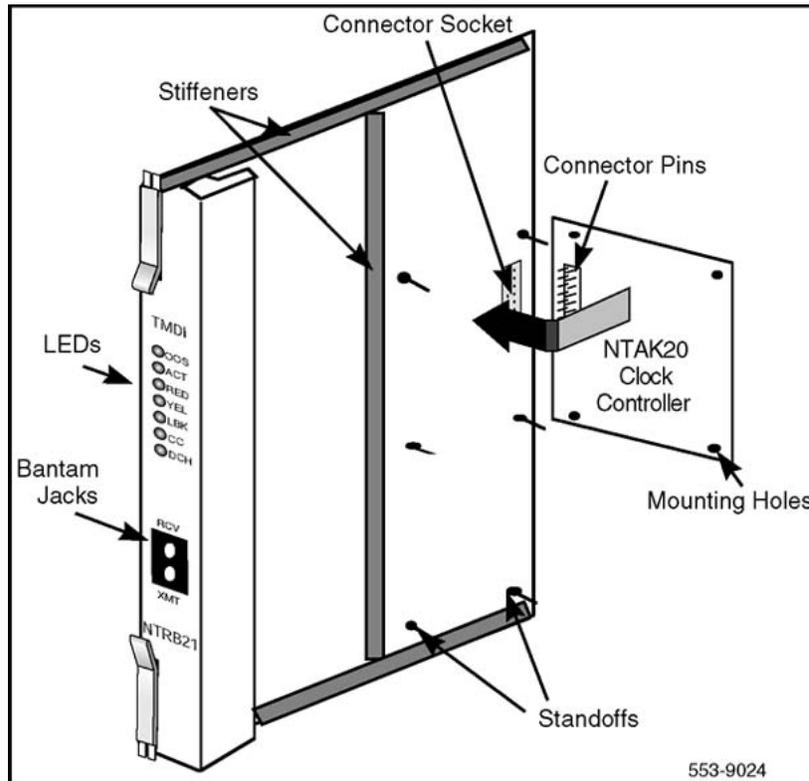

Figure 84: NTA20 daughterboard installation on the NTRB21
3. From an overhead view, with the daughterboard parallel above the NTRB21 and the connector pins aligned over the connector sockets, line up the mounting holes on the daughterboard (Figure 84: NTAK20 daughterboard installation on the NTRB21 on page 255) with the tops of the standoffs on the NTRB21.